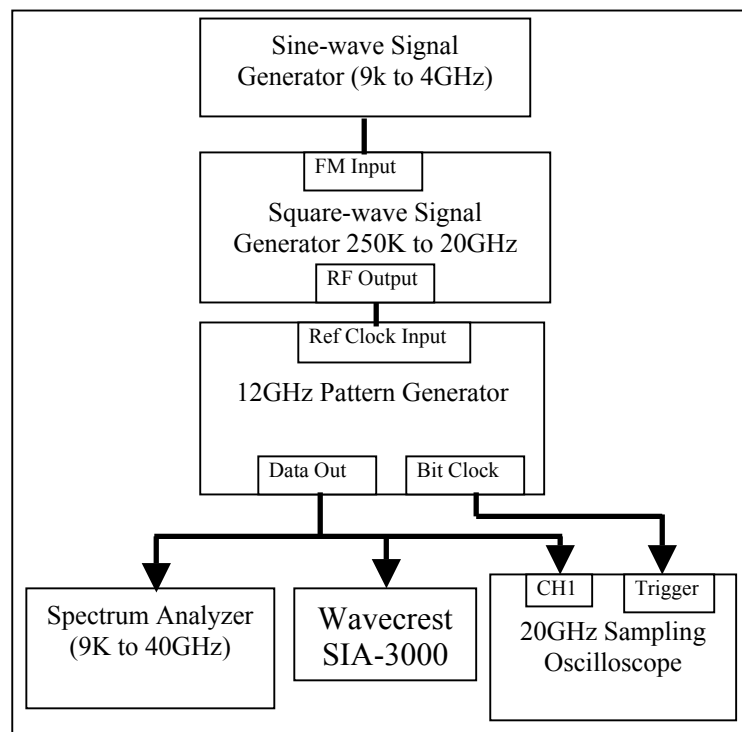
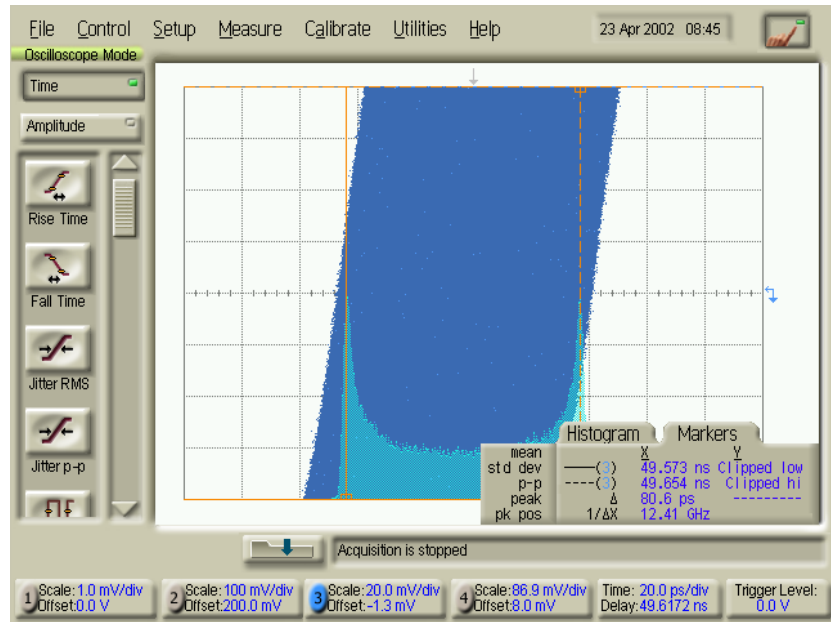

Figure 1 - Measurement Setup.
Figure 2 - Using a Sampling Oscilloscope's markers to estimate PJ Amplitude. The pk-pk PJ is 40.3ps.
The setup is shown in Figure 1. A square-wave signal generator is used as the clock source (1.5GHz) into the pattern generator. This generator has an internal maximum modulation of 1MHz so a second sign-wave signal generator is fed into the FM input on the square-wave signal generator and is used as an external modulation for frequencies above 1MHz. The square-wave signal generator also has a 3dB external FM frequency of 10MHz for its FM input. Frequencies at or near 10MHz won't correlate to the equations described in the section titled Spectrum Analyzers as they are attenuated
Using the following method you can use a sampling oscilloscope to approximate PJ amplitudes. The setup is shown in figure 1. The bit clock from the BERT is used as the trigger on the sampling scope. The modulated data or clock signal is sent into the measurement channel. This will produce an Eye Diagram or in the case where the data is a clock, then you are able to view the modulated clock signal (Figure 2).
Once an edge with the largest accumulated PJ amplitude has been determined, measure the peak-to-peak (pk-pk) time deviation of the 50% voltage threshold with a 5-10mV range. Make sure that the left and right window borders are wide enough to contain the entire edge. Allow the histogram to accumulate enough points so you can see a good picture of the histogram. The histogram will have a "saddle" shape (as shown in Figure 2) corresponding to the probability density function (PDF) of a sine wave. If the modulation is a sine wave, the distance between the peaks is the magnitude of the modulation in both positive and negative deviation. Using the markers, you can estimate the PJ amplitude by placing the markers on the peaks of the saddle and dividing the delta by 2 (See Figure 2). NOTE: This is only valid when there is only one sine wave PJ modulation affecting the signal under test. When there are multiple PJ components, you will get some combination of these PJ amplitudes depending on their frequency ratios and individual amplitudes.
When using a signal generator as shown in Figure 1, equation 1.5 can be used to convert the Δf or FM amplitude into Unit Intervals (UI) of jitter [2].